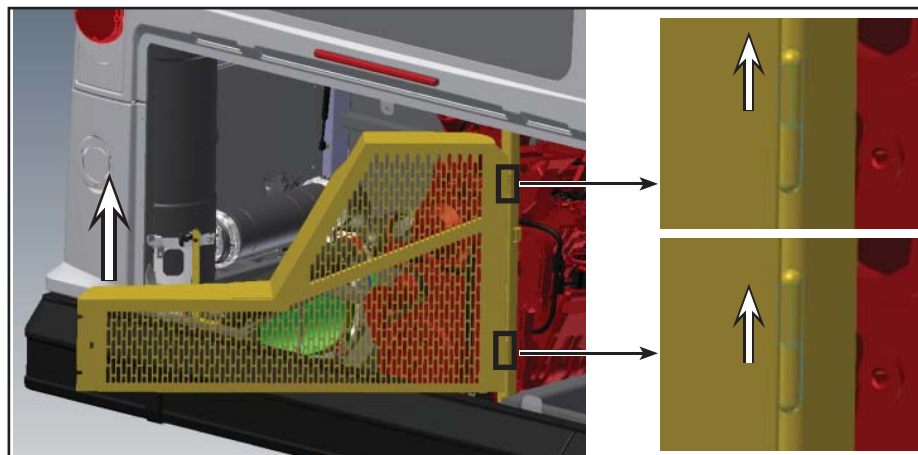

Figure 3 - Direction to Lift Belt Guard
- 1.3. Lift the belt guard upwards to remove it from the hinge post. See Figure 3.